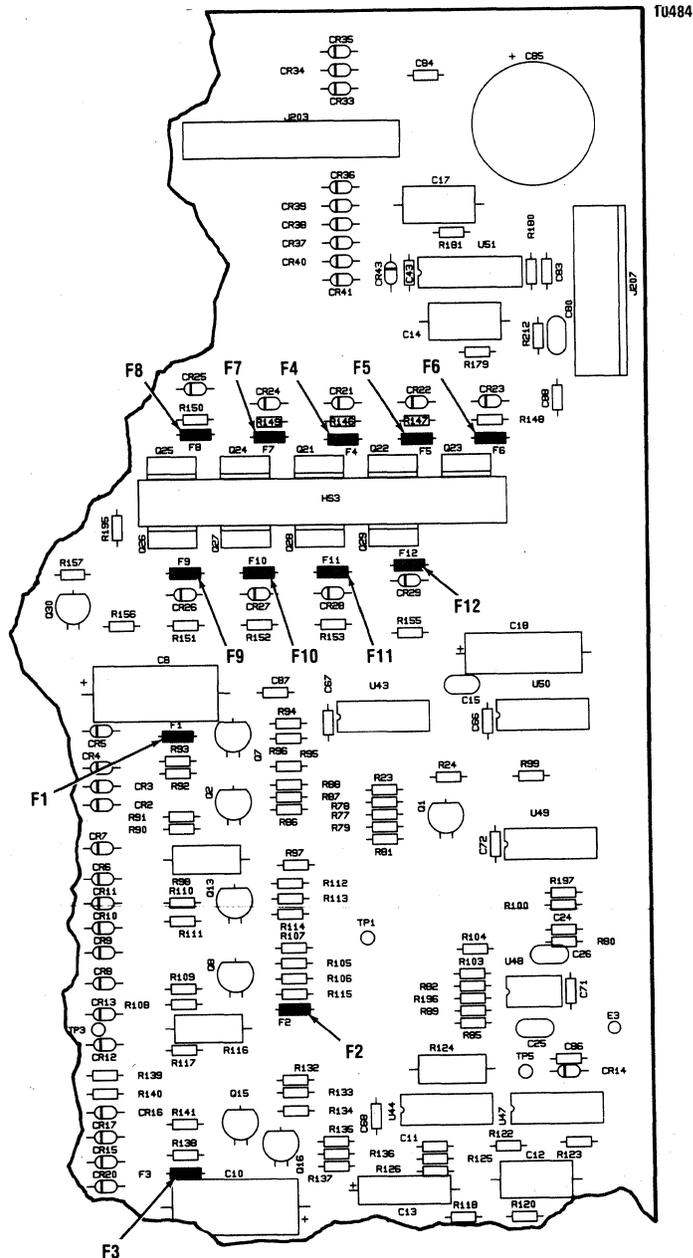

Figure 5-19. REMOVAL/REPLACEMENT PICO FUSE
The pico fuses, item 1 of Figure 5-19, are located on the Print Controller pcb and are removed using needle nose pliers. To remove the pico fuses, refer to Figure 5-19 and perform the following steps:
Refer to Figure 5-19 for the locations (F1 through F12) of the pico fuses and to Appendix D for the pico fuse color coding information.